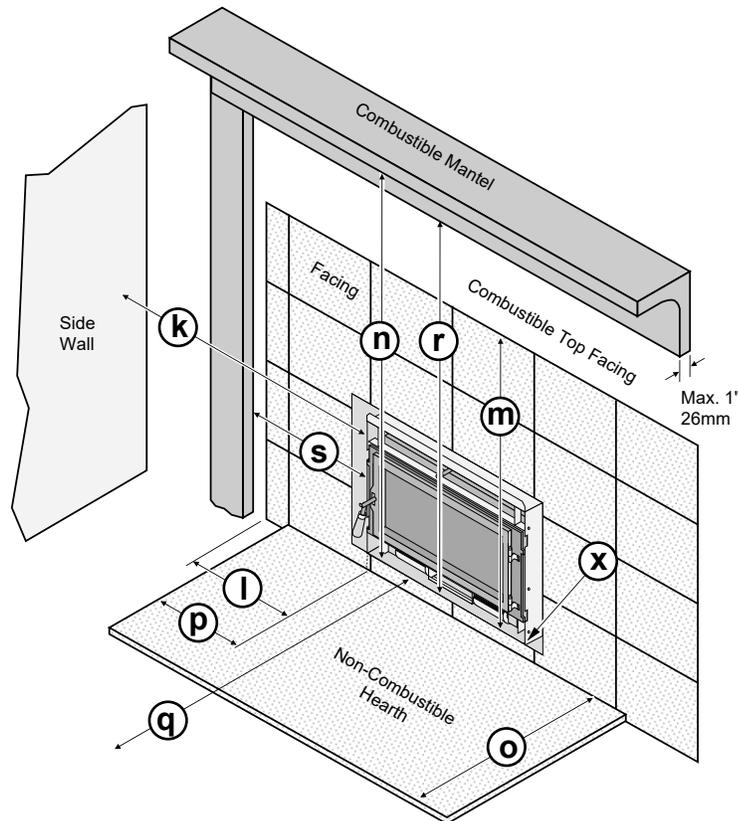

Figure 3
- The inbuilt must be placed so that no combustibles are within, or can swing within (e.g. drapes, doors), 36" (915mm) of the front of the inbuilt (Figure 3 "q").
- The minimum clearances, facing, and hearth requirements in Figure 3 must be met.